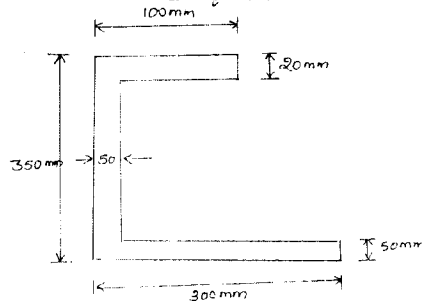

Fig. Q1 (b)
- b. Locate the centroid of the beam in Fig. Q1 (b). (12 Marks)